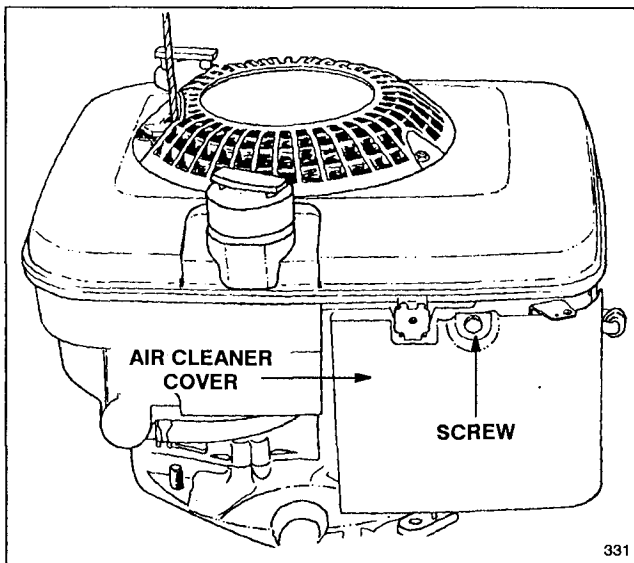

Figure 13
2. Remove screw securing air cleaner cover to engine (Fig. 13). Tilt cover down and clean thoroughly.